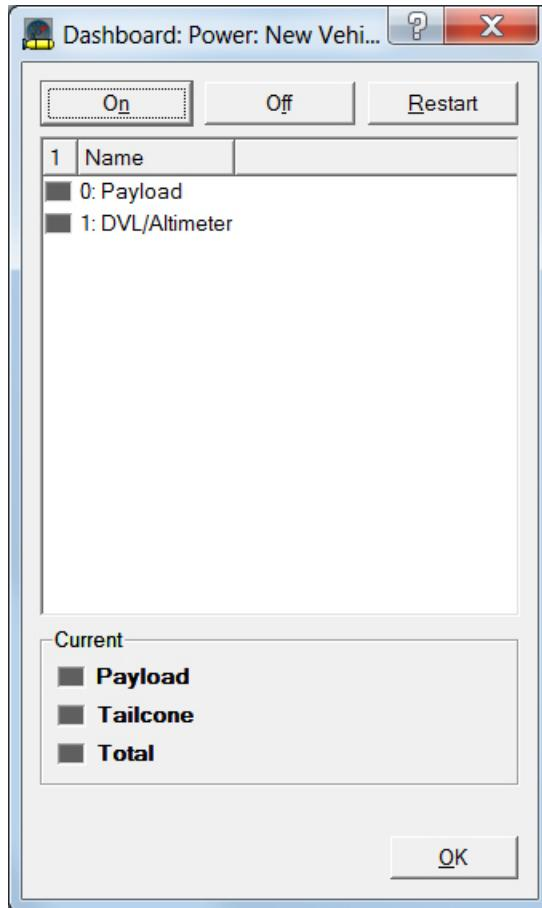

Figure 27: Power and Ground Faults Window
1. Select **Devices > Power and Ground faults** from the menu bar, or click the power and ground faults button (lightning bolt) on the tool bar. The Power and Ground Faults window (Figure 27) opens.